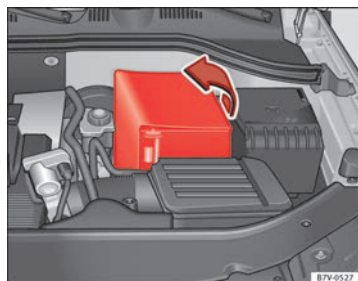

Fig. 176 In the engine compartment: Unfold the vehicle's battery hose
- *In the case of a hose:* fold the cover to one side to remove ⇒ Fig. 176.